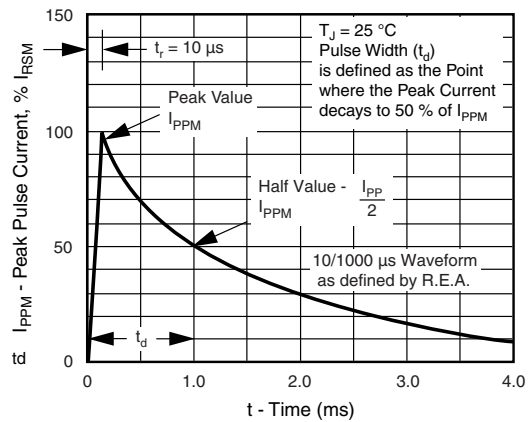
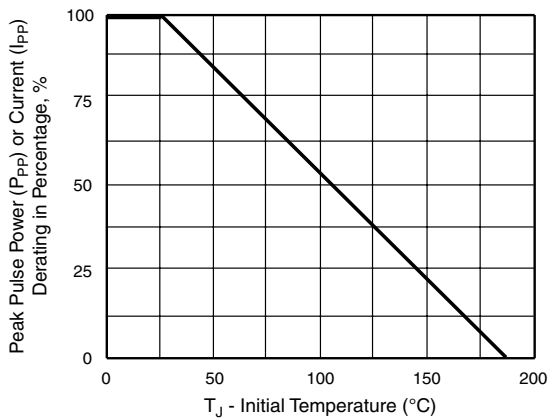

Figure 3. Pulse Waveform
Figure 2. Pulse Power or Current vs. Initial Junction Temperature
- (1) Non-repetitive current pulse, per Fig. 3 and derated above  $T_A = 25$  °C per Fig. 2
- (2) Mounted on P.C.B. with 0.2 x 0.2" (5.0 x 5.0 mm) copper pads attached to each terminal
- (3) Measured on 8.3 ms single half sine-wave or equivalent square wave, duty cycle = 4 pulses per minutes maximum
- (4) Mounted on minimum recommended pad layout
- (1)  $V_{BR}$  measured after  $I_T$  applied for 300  $\mu\text{s}$ ,  $I_T$  = square wave pulse or equivalent
- (2) Surge current waveform per Fig. 3 and derated per Fig. 2
- (3) All terms and symbols are consistent with ANSI/IEEE C62.35